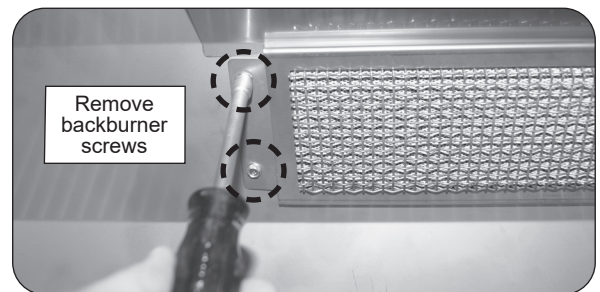

Fig. 41-3 Remove backburner mounting screws
2. Remove the backburner mounting screws (1/4" hex) located at the left end of the backburner assembly (see Fig. 41-3).